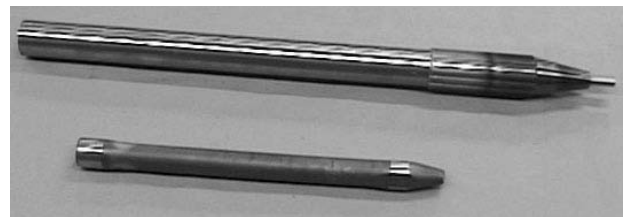

Figure 8-7. Removing Striker from Body/Anvil.
5. Once the striker (2) is accessible, lower the body/anvil (1) to the level surface. Pull the striker from the body/anvil by hand as shown in Figure 8-7.